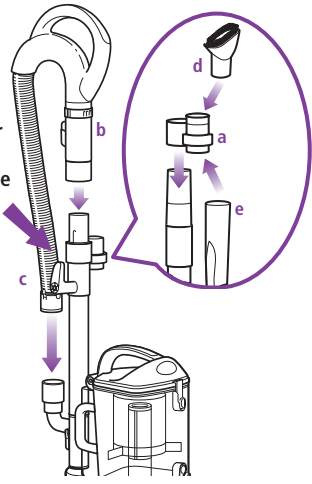

Fig. 11
- 5 Push the handle (b) onto the top of the extension wand until you hear it click into place. (Fig. 11)
- 6 Insert the end of the stretch hose (c) into the connector on the back of the detachable canister. (Fig. 11)
- 7 Store the dusting brush (d) and the crevice tool (e) on the mounts of the accessory holder. (Fig. 11)